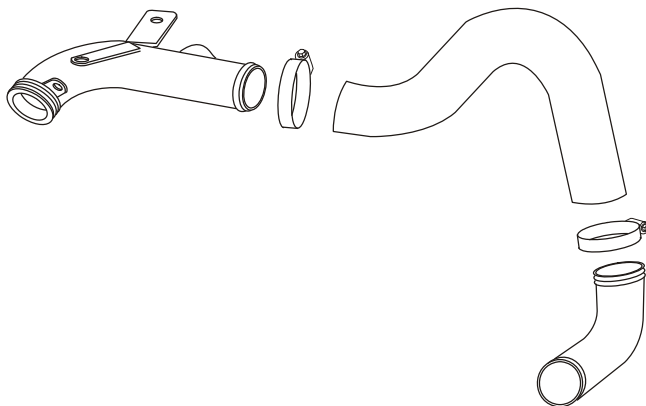

Figure 5.8
- ☐ Install the supplied radiator hose (with connector) to the top coolant pipe and the modified top radiator hose with the short end to the radiator and the long end to the connector (Figure 5.8). Tighten the hose clamps. The hose may require slight modifications to clear the compressor, drive pulley and belt.